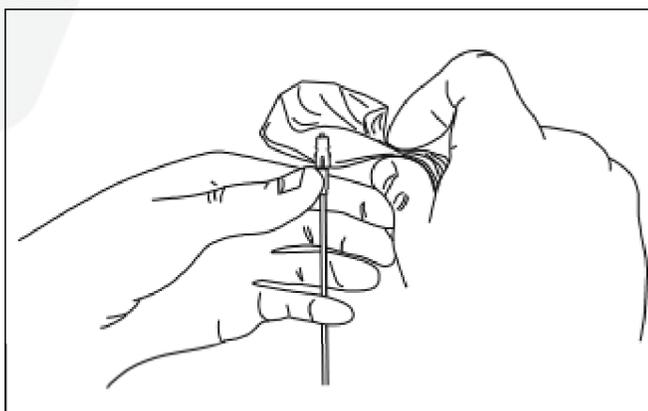

Figure 8: Wipe any epoxy from the face of the ferrule.
11. Holding the connector and cable in one hand as shown in Figure 8, back the fiber slowly out of the connector until the tip of the fiber is just inside the ferrule. With the other hand, thoroughly clean ALL epoxy from the face of the ferrule with a dry wipe. Once cleaned, fully insert the fiber with a slow and continuous motion. Epoxy should be absent from the ferrule surface upon completion of this step. With the edge of a wipe, also gently remove any epoxy remaining on the fiber near the ferrule surface.